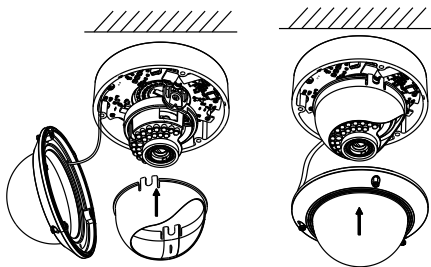

Figure 2-4 Secure Black Liner and Bubble
11. Install the bubble back to the camera and secure it with screws as shown in Figure 2-4.